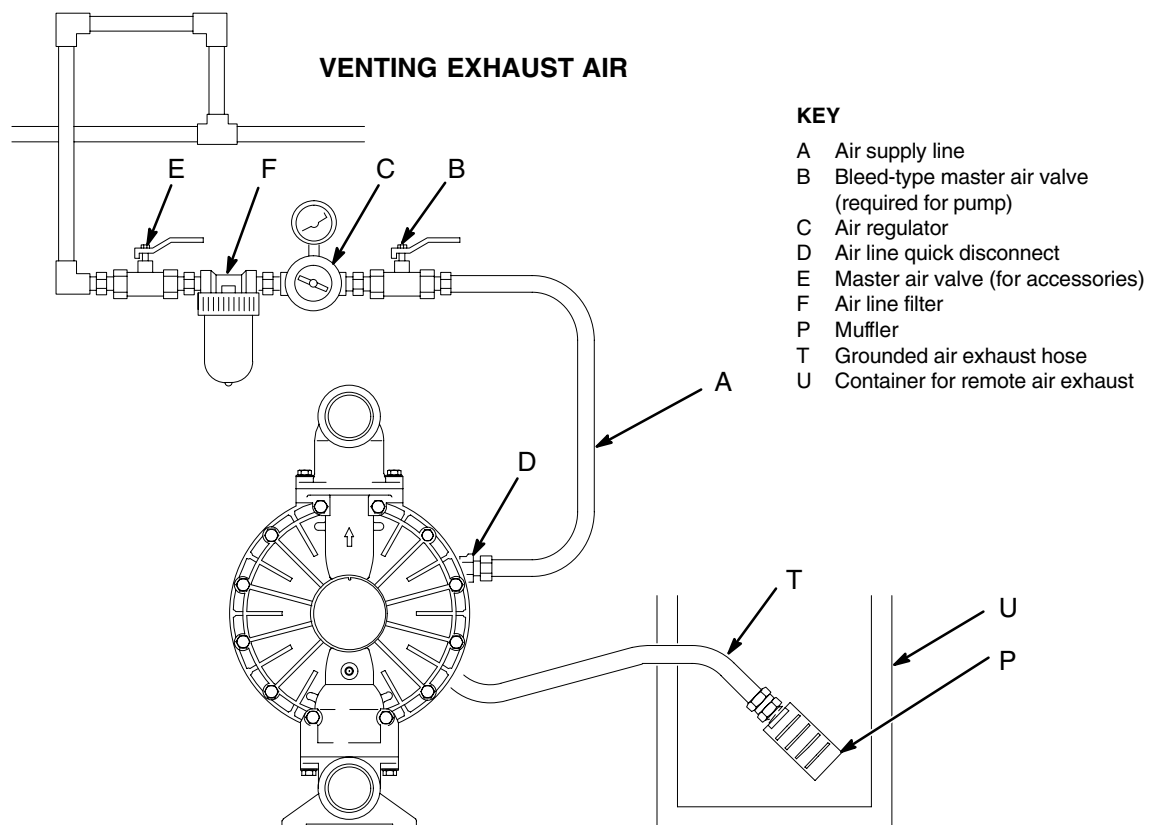

Fig. 5
Diaphragm failure will cause the fluid being pumped to exhaust with the air. Place an appropriate container at the end of the air exhaust line to catch the fluid. See Fig. 5.
1. Remove the muffler (P) from the pump air exhaust port.
2. Install a grounded air exhaust hose (T) and connect the muffler (P) to the other end of the hose. The minimum size for the air exhaust hose is 3/4 in. (19 mm) ID. If a hose longer than 15 ft (4.57 m) is required, use a larger diameter hose. Avoid sharp bends or kinks in the hose. See Fig. 5.
3. Place a container (U) at the end of the air exhaust line to catch fluid in case a diaphragm ruptures.